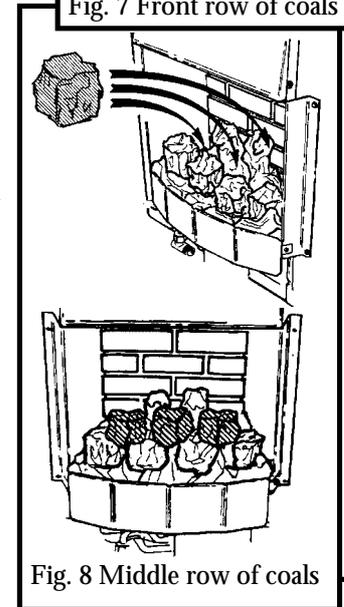

Fig. 8 Middle row of coals
4.2 Place the three remaining medium size coals behind and approximately midway between each of the coals in the front row (See figure 8).